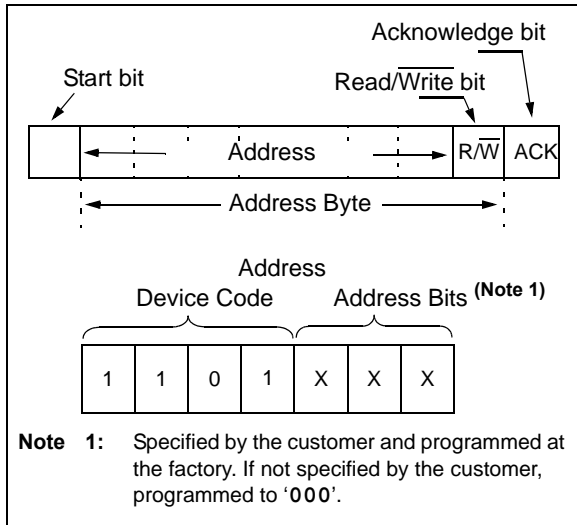
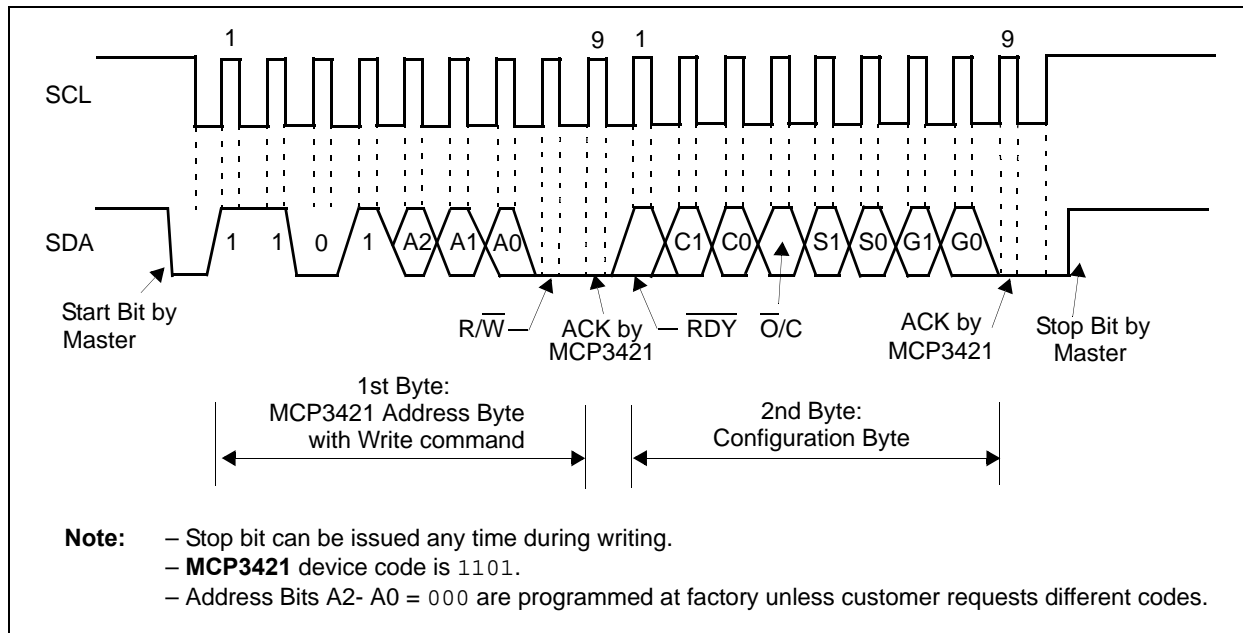
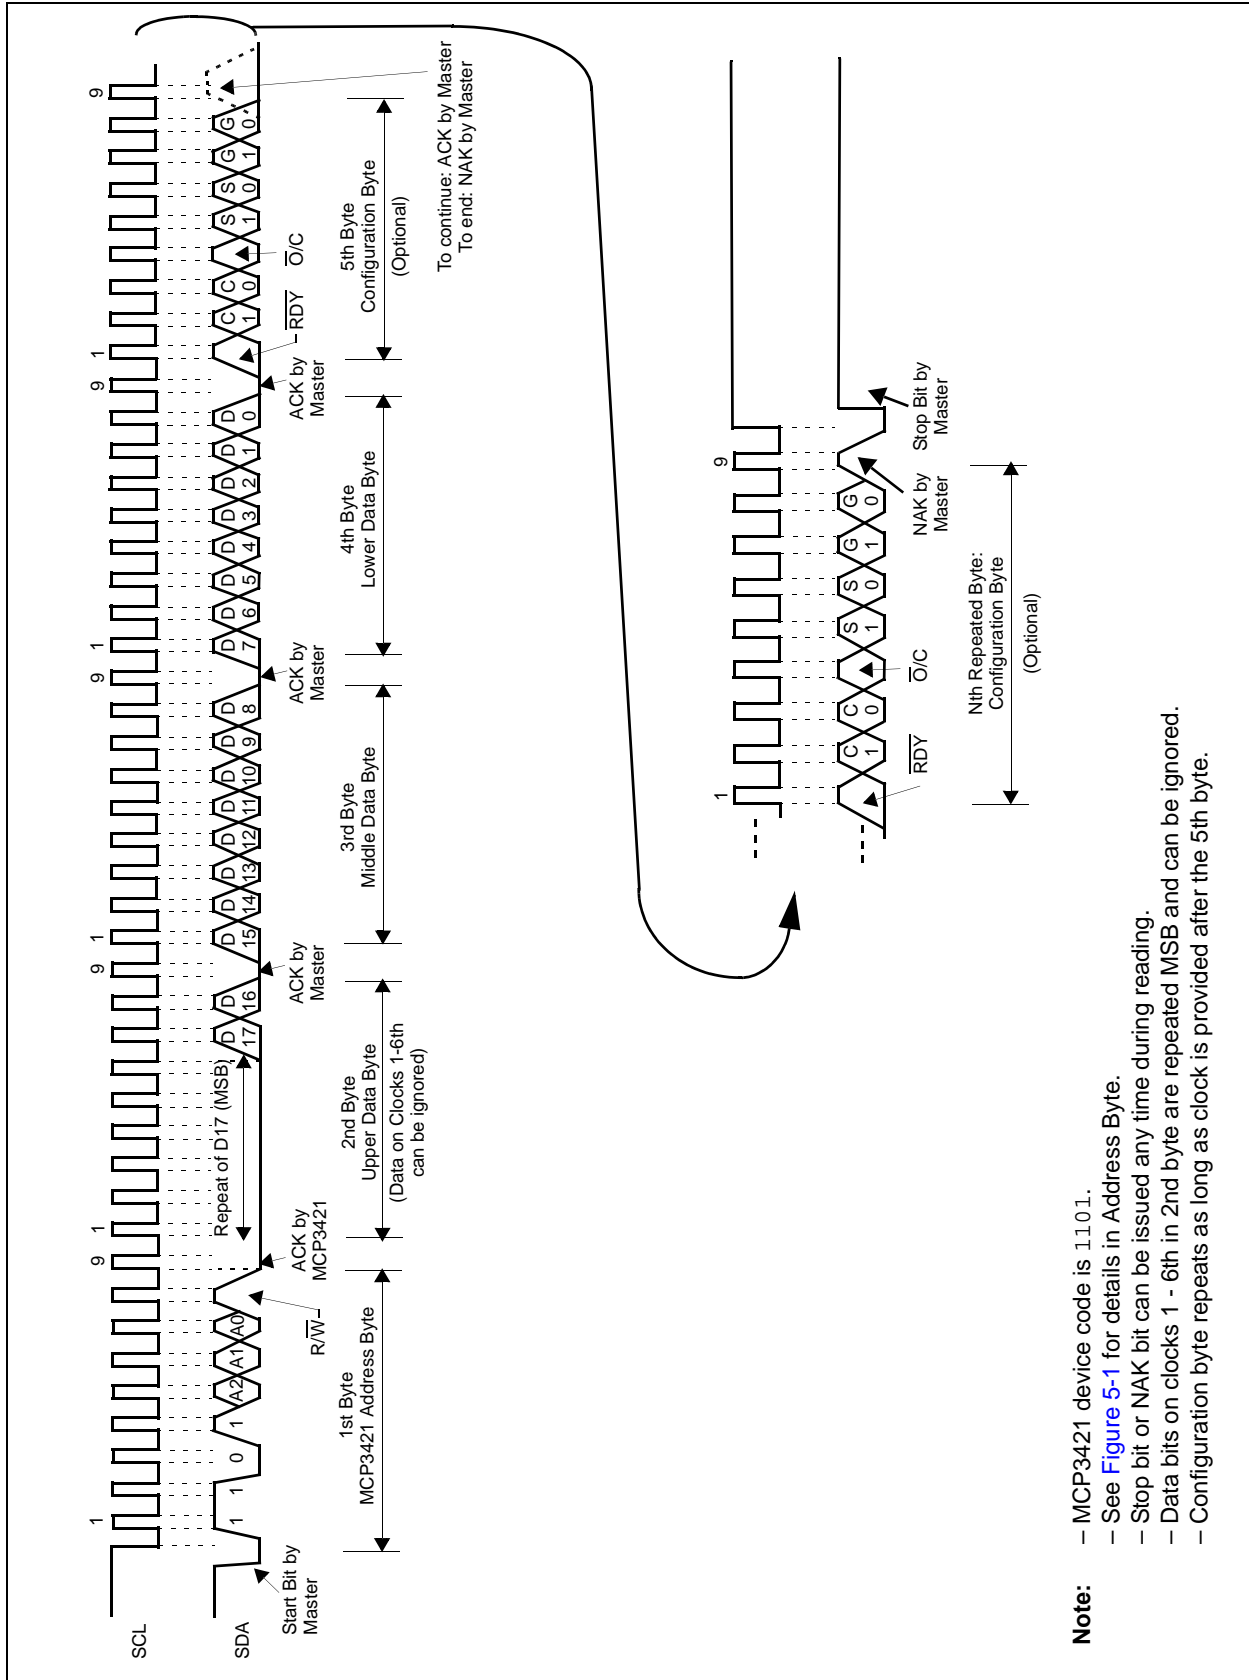
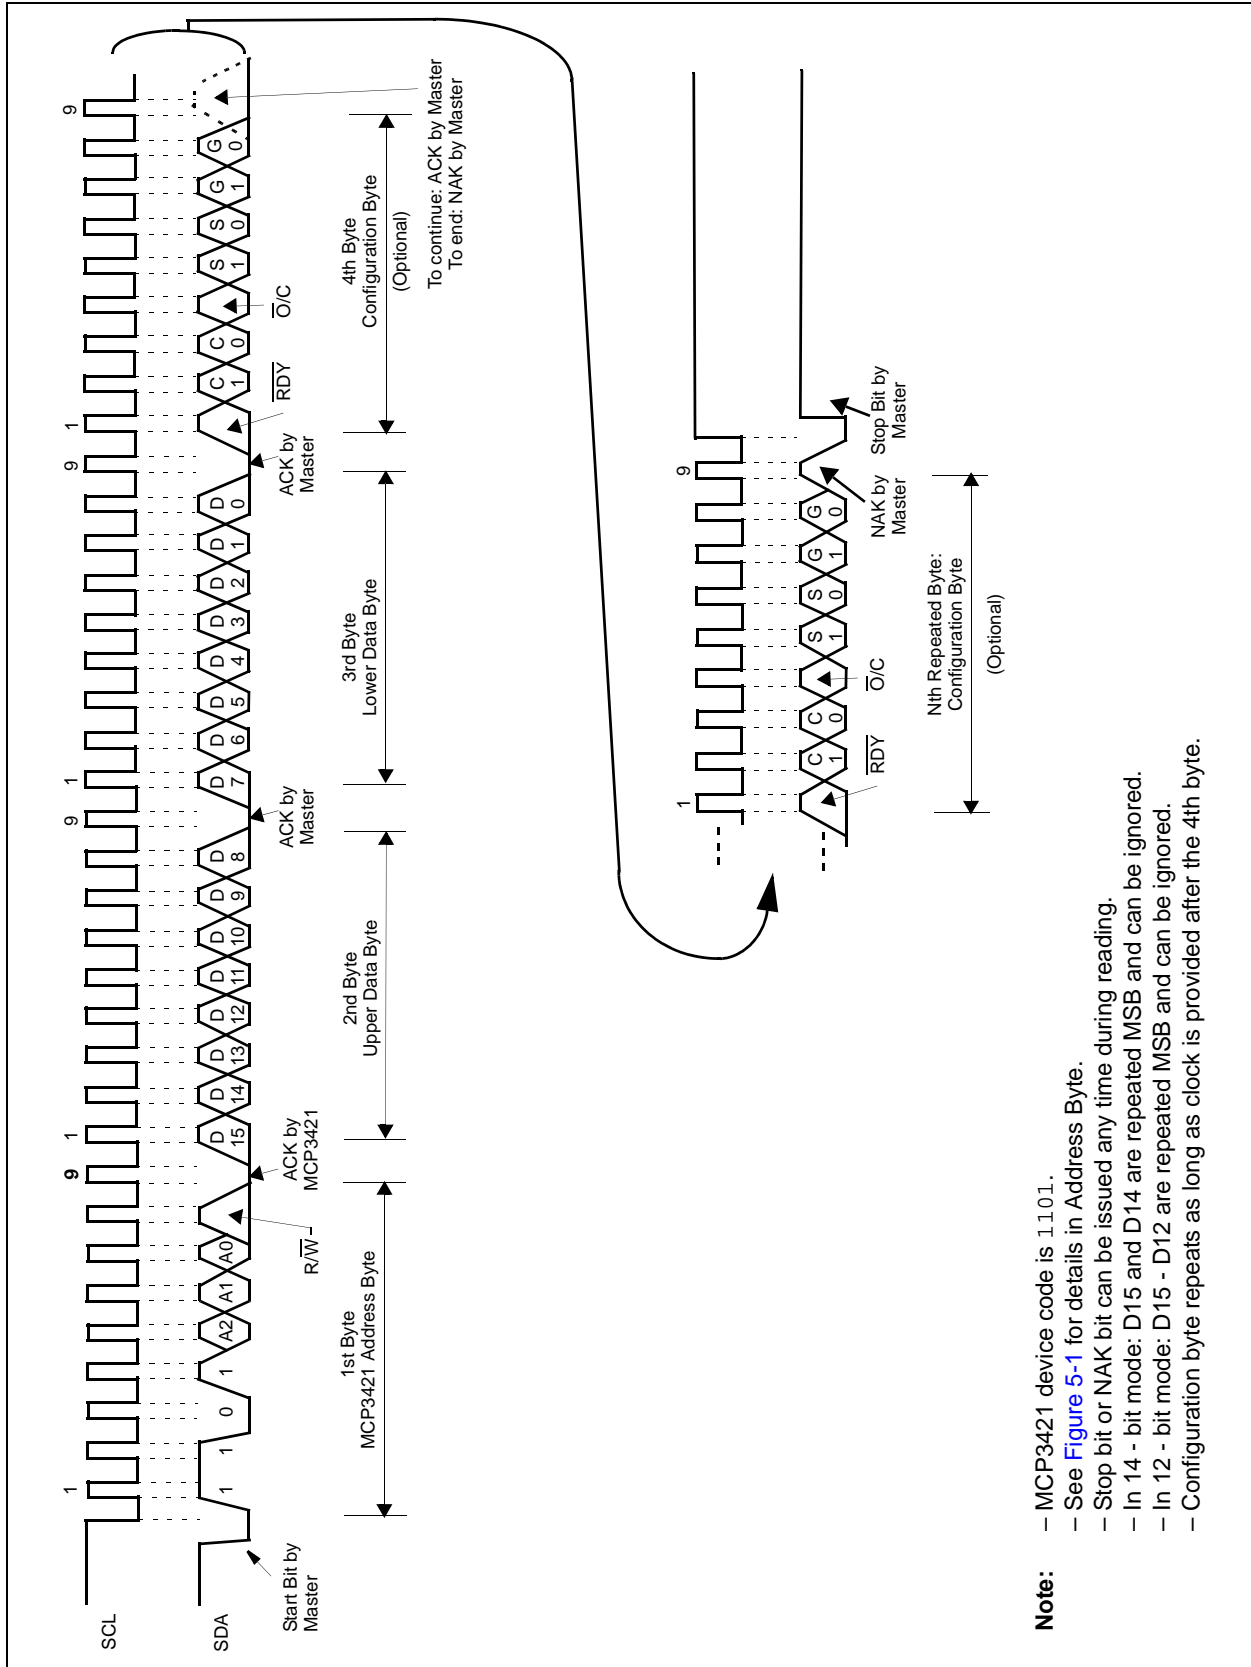

FIGURE 5-1: MCP3421 Address Byte.
FIGURE 5-2: Timing Diagram For Writing To The MCP3421.
FIGURE 5-3: Timing Diagram For Reading From The MCP3421 With 18-Bit Mode.
FIGURE 5-4: Timing Diagram For Reading From The MCP3421 With 12-Bit to 16-Bit Modes.
The user operates the device by setting up the device configuration register using a write command (see Figure 5-2) and reads the conversion data using a read command (see Figure 5-3 and Figure 5-4). The device operates in two modes: (a) Continuous Conversion Mode or (b) One-Shot Conversion Mode (single conversion). This mode selection is made by setting the $\overline{O/C}$ bit in the Configuration Register. Refer to Section 5.2 “Configuration Register” for more information.
Figure 5-3 and Figure 5-4 show the examples of reading the conversion data. The user can rewrite the configuration byte any time for a new setting.
Figure 5-1 shows the address byte. Figure 5-2 through Figure 5-4 show how to write the configuration register bits and read the conversion results.
Figures 5-3 and 5-4 show the timing diagrams of the reading.
- See Figure 5-1 for details in Address Byte.